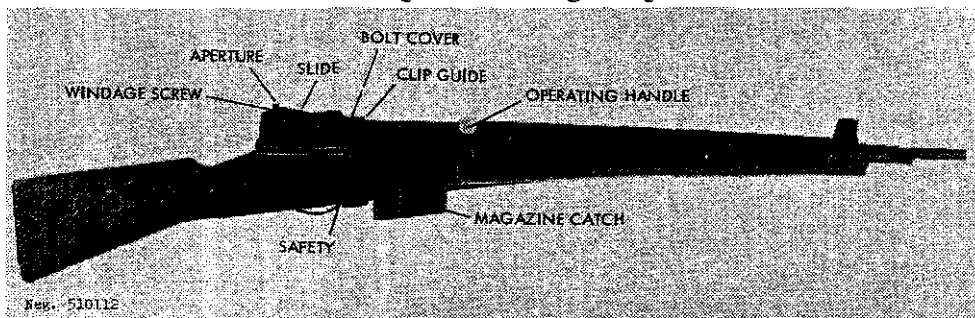
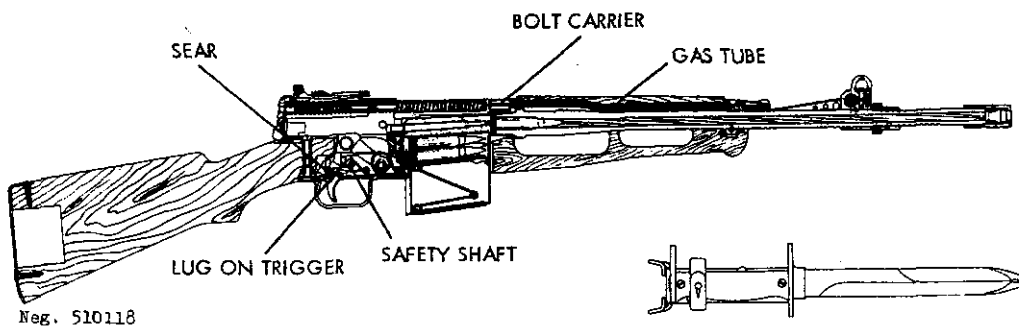

Figure 113. French M.A.S. 49 rifle.
Figure 119. M.A.S. 49/56 section.
a. At the end of World War II the French Army was equipped with a variety of obsolete and foreign rifles. To correct this situation, a crash program was started to develop a new rifle. The result was the Model 49 rifle (fig 113), usually referred to as the MAS 49. This weapon is a gas-operated, semiautomatic,
b. Press the lower end of the magazine catch (fig 113 and 115) against the magazine and pull the magazine out of the receiver. Place a cartridge on the magazine follower and press the cartridge down until it snaps under one of the feed lips; repeat until the magazine is filled with ten cartridges. Insert the loaded magazine into the receiver until the magazine catch snaps into place. Alternatively, the operating handle (fig 113 and 115) can be pulled rearward as far as possible and released. The bolt will be caught open. Insert a charger into the clip guide (fig 113) at the front of the bolt cover and, with the thumb, press the cartridges off the guide and into the magazine. Repeat with a second five-round charger.
c. Pull the operating handle (fig 113 and 115) fully rearward and release it. CAUTION: The rifle is now loaded and ready to fire. If immediate firing is not intended, render the rifle safe by rotating the safety (fig 113 and 115) downward.
d. Adjust the rear sight for range by pressing down on the aperture (fig 113) and then moving the slide (fig 113) to the number that corresponds with the range in hundreds of meters.
Windage adjustments can be made by using a screwdriver to turn the windage screw (fig 113).
f. To launch grenades, first clear the rifle (para g below). Do not insert the magazine. Load a special non-bulleted, grenade-launching cartridge into the chamber and close the bolt. Rotate the safety (fig 113 and 115) downward. Erect the grenade sight (fig 113 and 115).
(3) When finished launching grenades, fold the grenade sights down and, in case of the M49, withdraw the range sleeve into the front end by rotating the knurled nut.
g. To clear the rifle, rotate the safety forward, press the magazine catch (fig 113 and 115), and remove the magazine. Pull the operating handle (fig 113 and 115) fully to the rear. Inspect to insure that no cartridges are in the barrel or receiver, release the operating handle, squeeze the trigger, rotate the safety rearward, and insert the magazine.
a. The M49 and M49/56 function identically. The rifles are gas operated. Upon firing, some of the gas that propels the bullet is tapped off and directed back, through a gas tube, into the bolt carrier (fig 119). The gas impulse drives the bolt carrier rearward. The driving spring compresses and the hammer rocks back, compressing its spring. After a short distance, cam grooves (in the rear of the bolt carrier) contact lugs on the bolt (fig 119) and lifts the rear of the bolt up, out of the locking recess in the receiver.
c. When the hammer is cocked, a hook on the hammer is caught by a lug on the trigger (fig 119). When the trigger is pressed, it rotates about its pin, and its lug releases the hammer. Concurrently, the spring-loaded sear, pivoted to the rear of the trigger (fig 119), rotates forward. The hammer spring swings the hammer forward to fire the cartridge.
f. When the safety (fig 113 and 115) is rotated rearward to safe, the solid portion of its shaft (fig 119) rotates in front of the trigger and thus prevents forward trigger motion. When the safety is rotated forward to the fire position, a cutaway section of the shaft moves in front of the trigger and no longer blocks its movement.